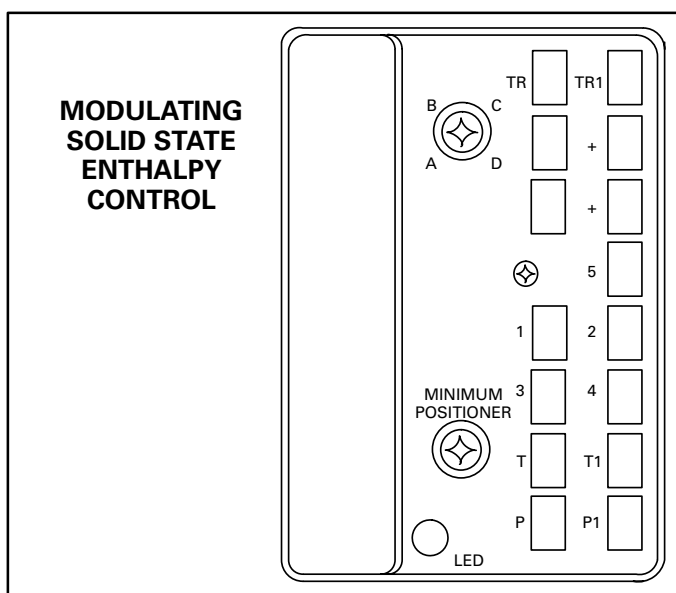

FIGURE 20
- 4- Install jumper across enthalpy control terminals T and T1. See figure 20 for terminal location.
- 7- Remove T and T1 jumper then restore power to the unit. Outdoor damper should drive to minimum position. Adjust minimum damper position pot located on control. See figure 20.